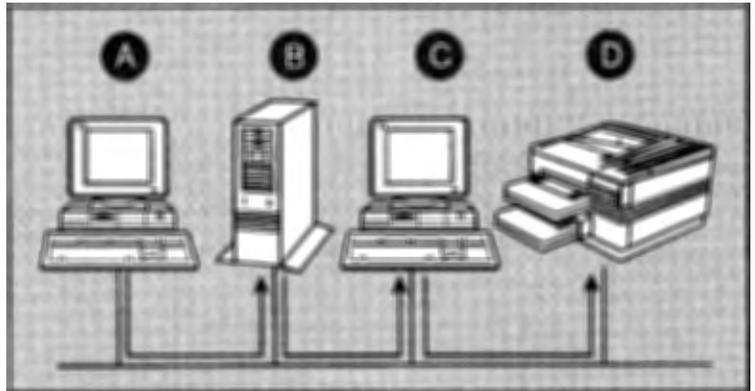

Figure 1-2. Network Printing in Remote Printer Mode
When configured for the Remote Printer mode, data follows the path illustrated by Figure 1-2. First the user prints the job at a workstation (A). The job travels to the file server (B) where it is stored, or spooled, in a print queue. When the printer is ready to print a job, Novell's print server (C) copies the print job to the printer (D) where it prints.
Figure 1-2 illustrates a Novell network that has a *dedicated* print server. This means that the computer that runs the print server software is dedicated to running *only* the print server software. Dedicated print servers can be set up on both the NetWare 286 and 386 network operating systems, and provide significantly better printing performance than non-dedicated print servers.